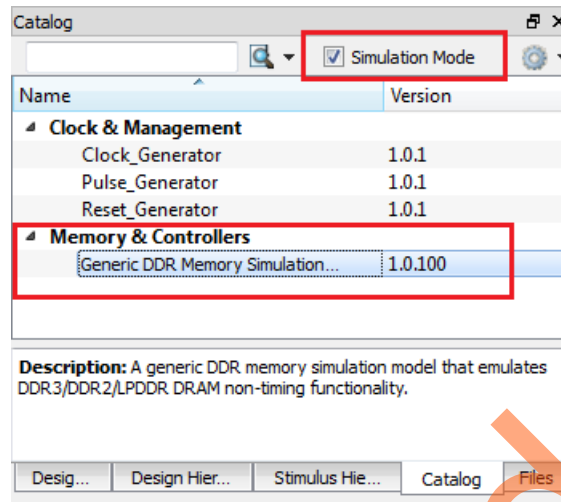

Figure 22 • Generic DDR Memory Simulation Model
- Under **Memory and Controller**, select **Generic DDR Memory Simulation** model to drag into the SmartDesign testbench canvas. Figure 22 shows the Simulation model.